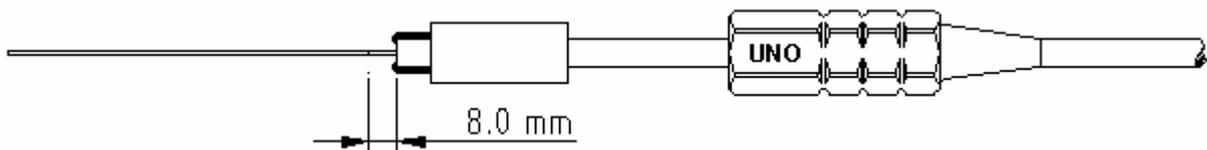

Figure 2: Crimping Sleeve
- 4) As shown in Figure 2 fold back the Kevlar® strain relief fibers (yellow) and slide the crimping sleeve over to get them out of the way.